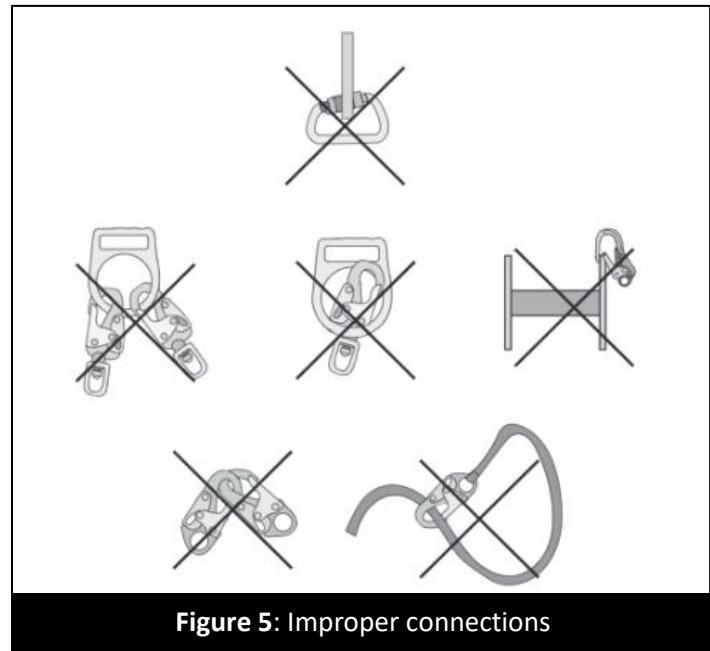

Figure 5: Improper connections
**7.5 MAKING CONNECTIONS:** Equipment (including snap hooks and carabiners) used with the SRL must be self-locking and compatible in size, shape, strength. Do not use equipment that is not compatible. Before use, ensure all connectors are fully closed and locked. Refer to Figure 5. Do not connect snap hooks and carabiners: